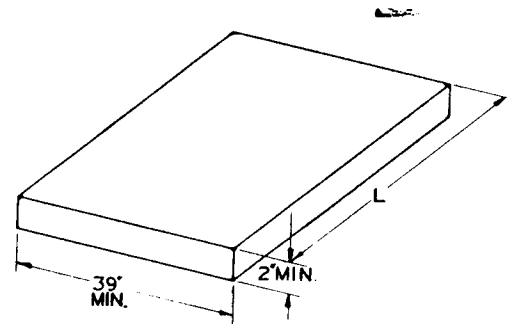

FIGURE 1
A boiler foundation is recommended where the boiler room floor is not level or where the boiler room floor cannot support the weight of the boiler. Locate the boiler foundation to provide proper clearances for installation of the piping, burner, and internal water heater(s). Allow a minimum clearance of 36" from the back of the boiler for breeching erection. Allow 39" clearance to the left side for cleaning and tankless or storage heaters, if used. A level concrete pad or curb foundation is suggested of the size shown in the table and FIGURE 1. The height of the boiler foundation should be at least 2".
- b. Locate the back section on top of the boiler foundation shown in FIGURE 1. Block under the 6" diameter pipe to hold the back section upright without additional support. These sections are top-heavy and will not stand individually without support. In supporting the back section, care must be taken to assure that the section remains plumb. The 6" diameter piece of pipe can be removed after several sections have been erected.